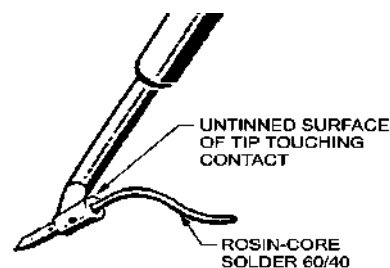

Figure 12-11 Tinning Inside of Contact
- g. Tin inside of solder type pins and sockets with a soldering iron, as shown in Figure 12-11. (Use untinned face of tip to prevent depositing solder on outside of contact.)